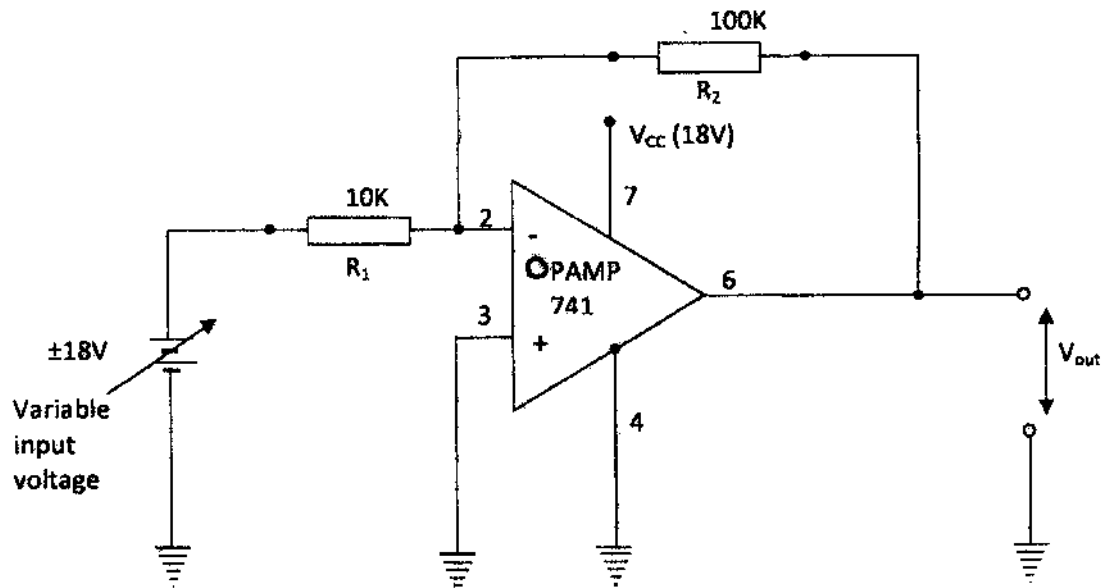

Figure 3
3. Figure 3 shows an electronic OPAMP amplifier circuit. Using tools, equipment and components provided: